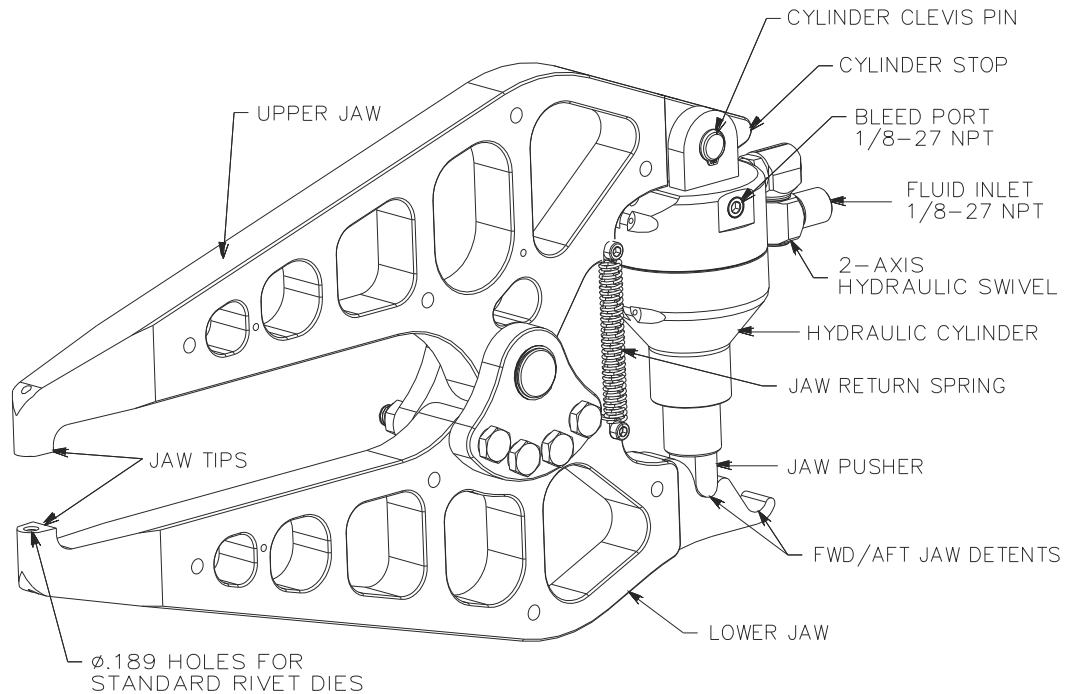

FIGURE 1 – MODEL NXA-10 DETAILS
- 5.1 Referring to Figure 1, become familiar with the components and features shown.